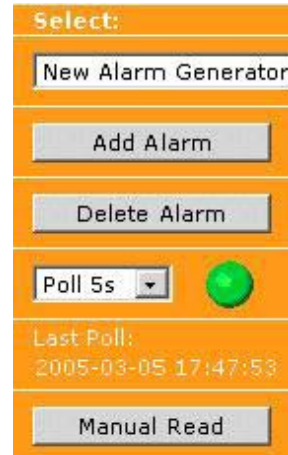

Figure 5.6 Poll Rate
- Configure the rate at which the *i*LON 100 server will poll the value of the input and compare data points using the drop-down list on the left side of the Web page, as shown in Figure 5.6.